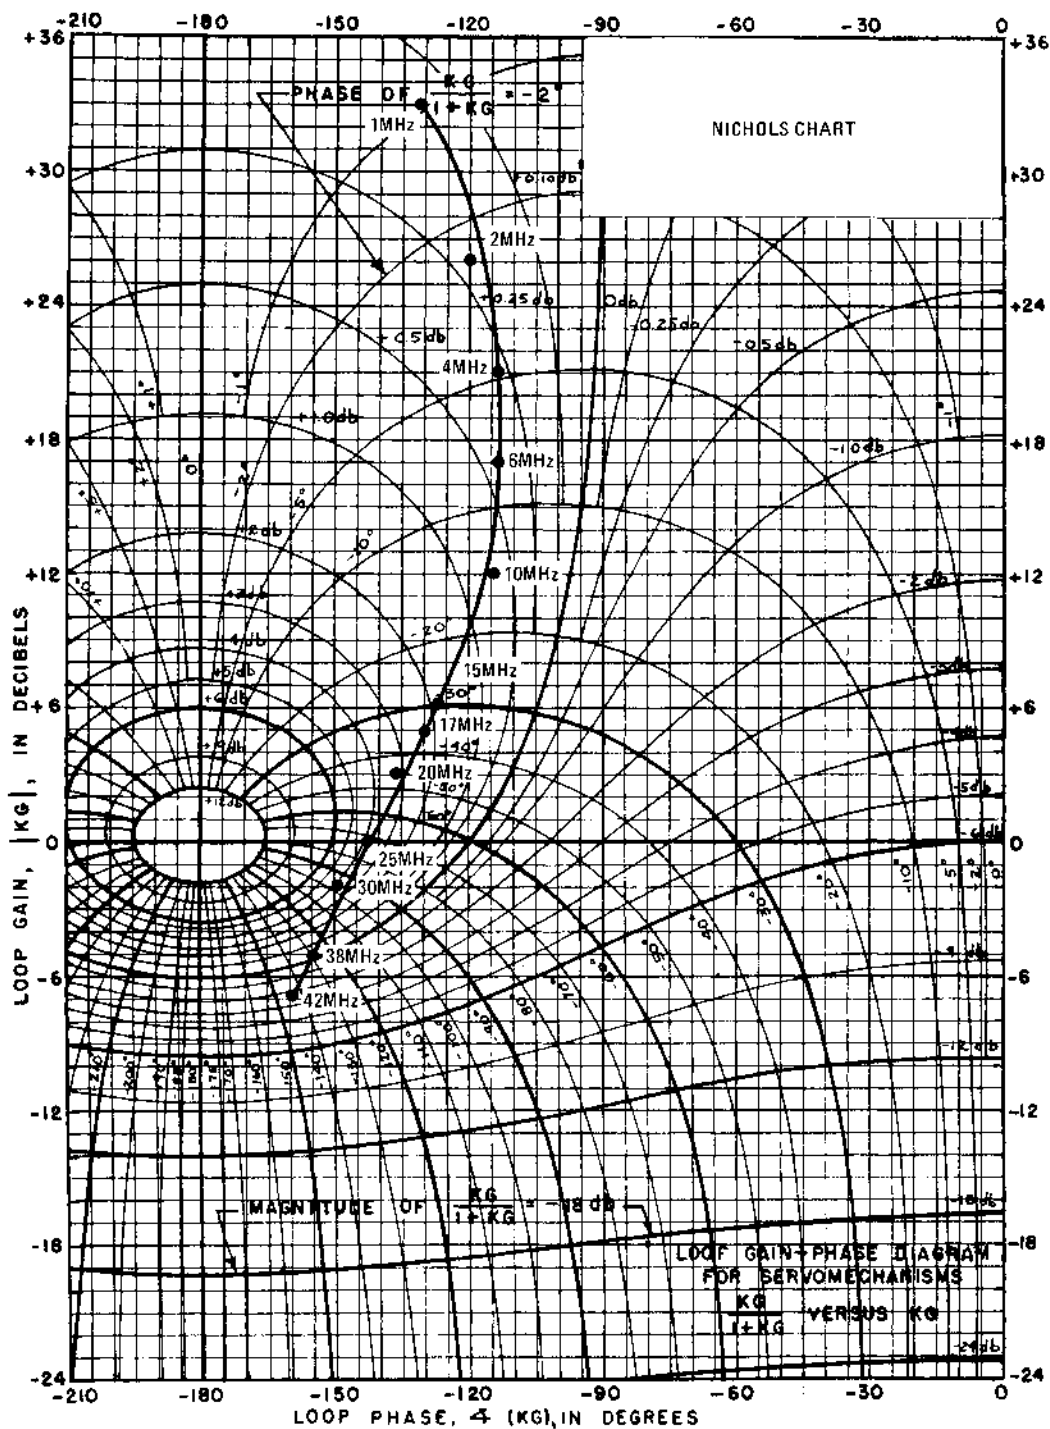

Figure 7
The graphical procedure using the Nichols chart (Figure 7) conveniently determines the above function in brackets from the amplifier loop gain (GH) plot. Using the following circuit, let's graphically obtain its closed loop response and compare it with actual experimental results.